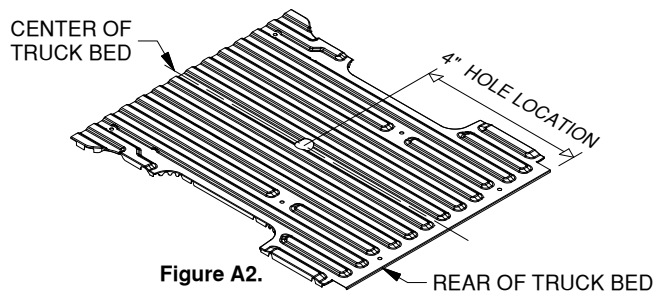

Figure A2.
5. **Mark the 4" hole location.** Using a tape measure hooked over the rear edge of the bed (at tailgate end), measure the location for the hole as shown in Figure A2. Next, locate the center of the bed by measuring the distance between the wheel wells and dividing by two. The center of the hole will be at the intersection of the center of the bed and the first distance measured.